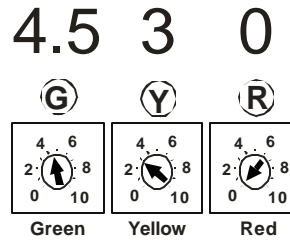
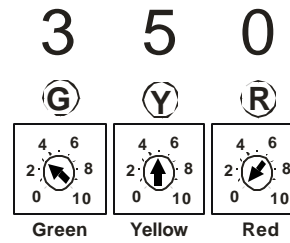

FIGURE 4
FIGURE 5
7. Remove the door from the Fi2000R module to expose the LED's. **NOTE:** The Fi2000R pot settings come preset from the factory for the VN1600 Classic, (Fig.4), for VN1600 & VN1500 Nomad owners, please adjust the Fi2000R to the base pot settings shown in (Fig. 5 or 6), prior to proceeding further. Verify the wire connections by, (1), turning on the ignition while watching the 3 LED's. They will all light up for a few seconds, and then go off. This is correct.